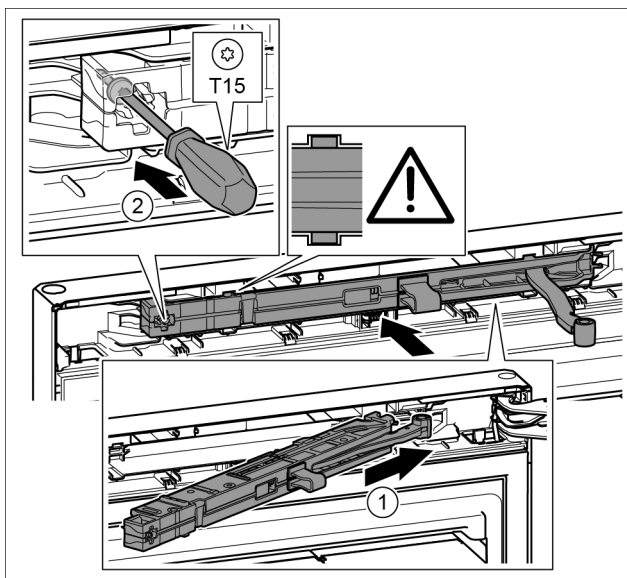

Fig. 21
- ▶ Slide the soft stop mechanism on the bearing bracket side at an angle into the slot as far as the limit stop. Fig. 21 (1)
- ▶ Tighten the screw with the T15 screwdriver. Fig. 21 (2)